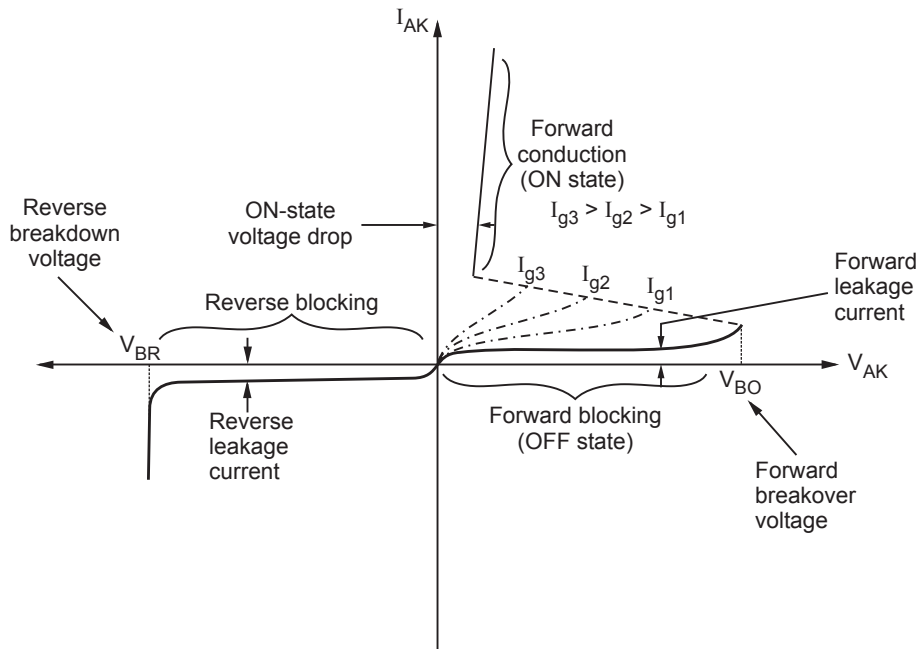
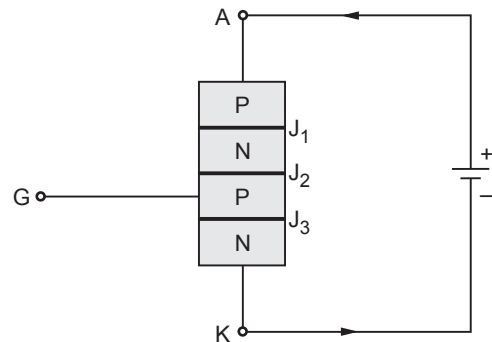
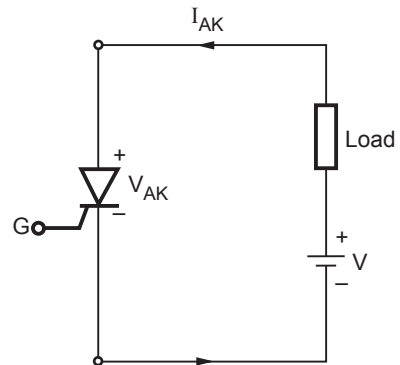

Fig. 1.2.1 Steady state or static V-I characteristics of a SCR
Fig. 1.2.3 SCR in forward biased condition
Fig. 1.2.4 Use of SCR in forward conduction
The working of the SCR can be discussed into three modes : Reverse blocking mode, forward blocking mode and forward conduction mode. Fig. 1.2.1 shows the V-I characteristics of the SCR.
The characteristics shown in the Fig. 1.2.1 are called static characteristics. The anode to cathode current I_{AK} is plotted with respect to anode to cathode voltage V_{AK} . The voltage ' V_{BO} ' is the forward break over voltage. ' V_{BR} ' is the reverse break-down voltage. And I_{g1} , I_{g2} , I_{g3} are the gate currents applied to the SCR.
In the above figure, observe that the anode (A) is made negative with respect to cathode (K). The gate is kept open. There are three PN junctions in the SCR : J_1 , J_2 and J_3 . Due to this reverse bias, junctions J_1 and J_3 are also reverse biased. And junction J_2 is forward biased. The SCR does not conduct due to this reverse bias. A very small current flows from cathode to anode. This current is called *reverse leakage current* of the SCR. This mode is called reverse blocking mode. Fig. 1.2.1 shows the characteristic of SCR in reverse blocking mode. Observe that reverse voltage increases but very small current flows. At reverse break down voltage (V_{BR}), the reverse current increases rapidly. At the time of reverse breakdown, the high voltage is present across the SCR and heavy current flows through it. Hence large power dissipation takes place in the thyristor. Due to this dissipation, the junction temperature exceeds the permissible value and the SCR is damaged. Hence a reverse voltage across the SCR should never exceed V_{BO} .
The SCR is said to be forward biased when anode is made positive with respect to cathode as shown in Fig. 1.2.3. Due to this forward bias the junction J_1 and J_3 is forward biased and J_2 is reverse biased. Hence the forward voltage is to be hold by junction J_2 . A very small current flows from anode to cathode. This current is called forward leakage current. This current is of the order of few milliamperes. In the forward blocking mode, the thyristor is forward biased but it does not turn-on. In the forward blocking mode a very small forward leakage current flows. In the forward blocking mode the voltage (V_{AK}) can be increased till V_{BO} . This situation is shown in Fig. 1.2.1. When the forward voltage reaches V_{BO} , the SCR turns on. The SCR goes from forward blocking mode to forward conduction mode. Normally gate drive is applied for this purpose. The highest voltage to be sustained in forward blocking mode is forward break-over voltage, V_{BO} .
The SCR is driven into forward conduction mode when anode to cathode voltage (V_{AK}) exceeds the forward break-over voltage (V_{BO}). The SCR is said to have *turned-on* when it operates in forward conduction mode. When $V_{AK} > V_{BO}$, the SCR is driven in forward conduction even if gate is open. From Fig. 1.2.3, it is clear that junction J_2 is reverse biased during forward blocking mode ($V_{AK} < V_{BO}$). When V_{AK} exceeds V_{BO} , the avalanche break-down of junction J_2 takes place even if gate drive is not applied. Hence heavy current starts flowing through the SCR and anode to cathode voltage falls to very small value. This is shown in Fig. 1.2.1. The dotted line (.....) indicates switching of SCR from forward blocking state (i.e. OFF) to forward conduction state (i.e. ON). The anode to cathode current of the SCR is only limited by the load. Fig. 1.2.4 shows such situation :
current. Hence avalanche break-down of junction J_2 takes place at lower anode to cathode voltage also. Thus SCR is driven into forward conduction mode (ON state) even if $V_{AK} < V_{BO}$. Fig. 1.2.1 shows the characteristic by center (---) lines when gate drive is applied. Observe that, as the gate current is increased, the SCR turns-on at lower values of anode to cathode voltages. All these anode to cathode voltages are less than V_{BO} . Thus gate triggering is the most convenient way of triggering the SCR.